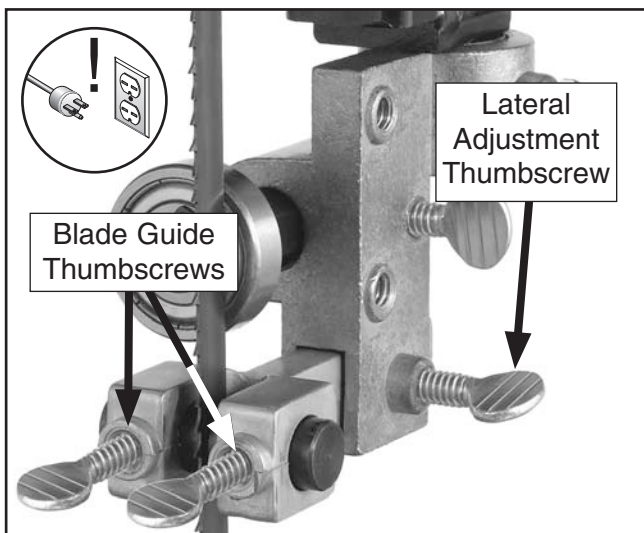

Figure 24. Blade guide controls.
3. Familiarize yourself with the blade guide controls shown in **Figure 24**.